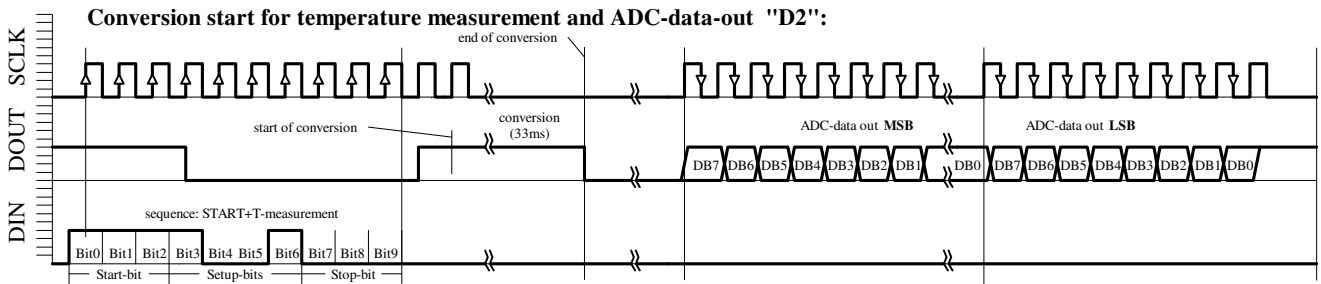

Fig. 6b: D2 ACQUISITION n sequence
- Conversion START for temperature measurement and ADC-data-out "D2" (Figure 6b)